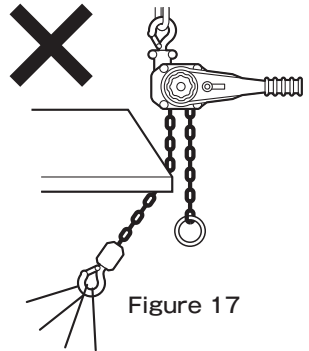
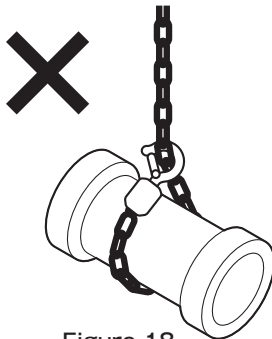

Figure 17
Figure 18
- (26) Never reverse a suspended load without sufficient expertise in doing so.
- (27) Do not suspend excessive loads.
- (28) When maintaining the load in a suspended condition for a short period of time, be sure to leave the switch pawls in the lifting position.
- (29) Never use the hoist or the hook to work as a fulcrum.
- (30) Do not use damaged or deformed top/bottom hooks.
- (31) Never use this equipment if the load chain is deformed or damaged.
- (32) Do not operate the equipment with the load chain lodged against a steel plate or other corners. (Figure 17)
- (33) Do not operate the load chain by any means other than human power (do not use any tools or objects on the controls).
- (34) Do not apply abrupt force to the load chain during idle operation.
- (35) Suspend slings properly onto the hook.
- (36) During lifting, temporarily pause winding once either the load chain or sling comes under tension.
- (37) Keep the lever hoist unit and load chain clean and free of sand and other debris.
- (38) Make sure the lifting height is sufficient for the intended work.
- (39) Make sure the load chain is sufficiently lubricated.
- (40) Do not modify this equipment in any way.
- (41) Do not use with the load chain wrapped around the load. (Figure 18)